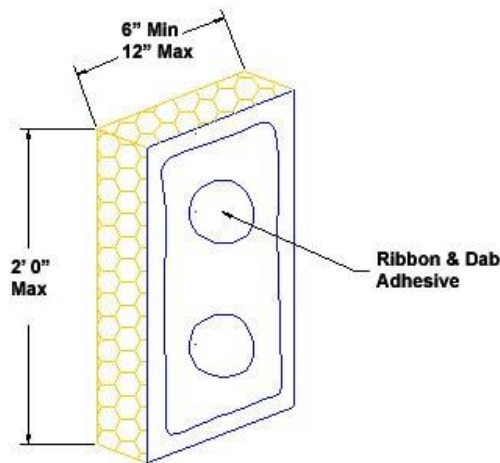
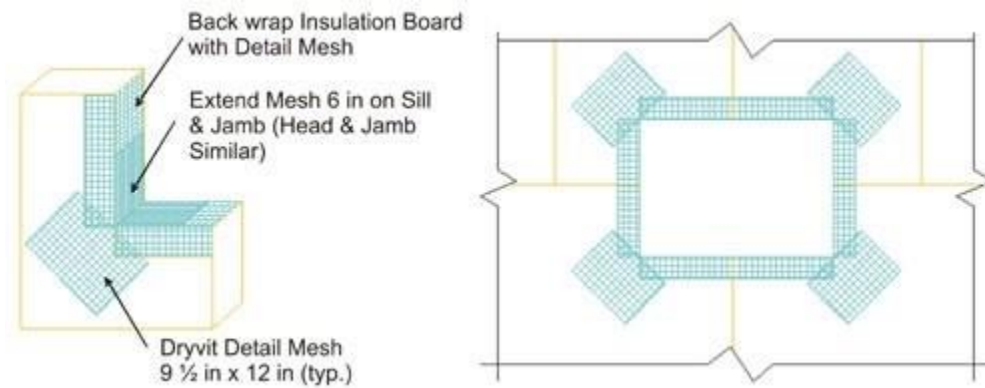

Fig. 11
Fig. 21
b. Apply the Dryvit Adhesive mixture to the back of the Closure Blocks using a ribbon and dab adhesive pattern as shown in Figure 11 and position along the compartment separation line as shown in Figure 21.
- a. At penetrations, align the Closure Blocks so that the edges (vertical and horizontal joints) do not coincide with the corners of the opening as illustrated in Figure 21.